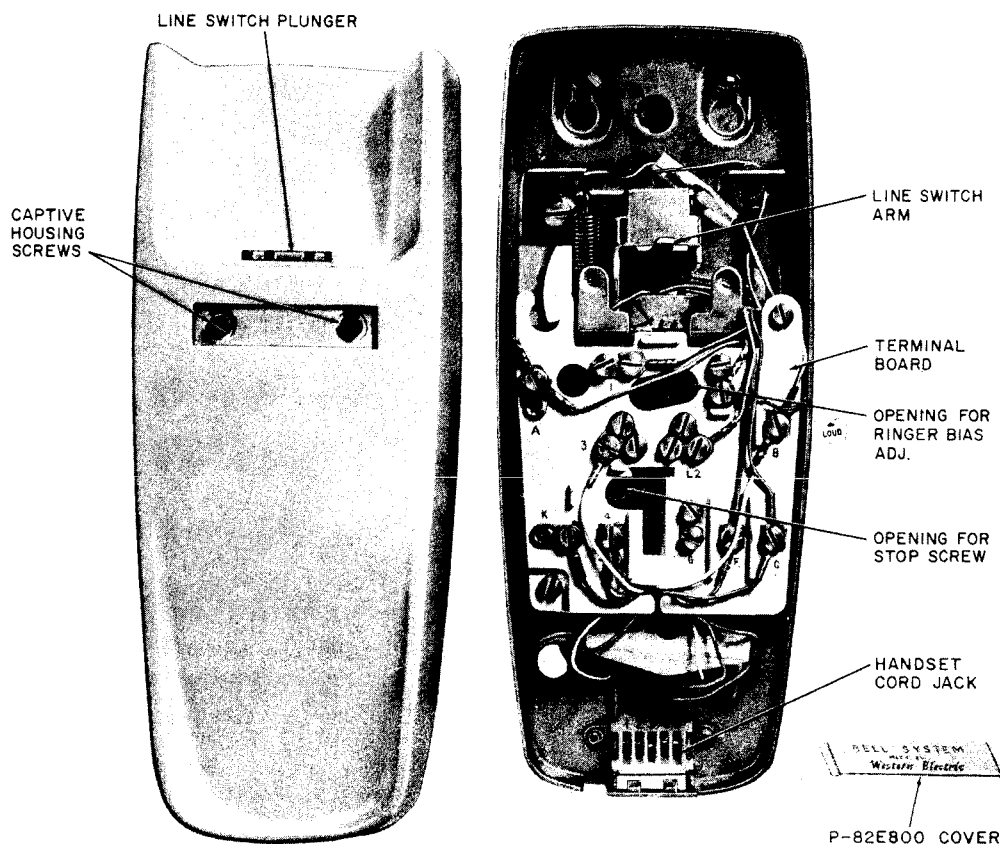

Fig. 6—Interior Of AC1 Telephone Base
- (5) The plastic housings of the AC1 and AD1 bases are secured by captive housing screws located behind the P-82E800 cover (Fig. 6 and 7). To remove the housing from either base assembly use a KS-16750 type